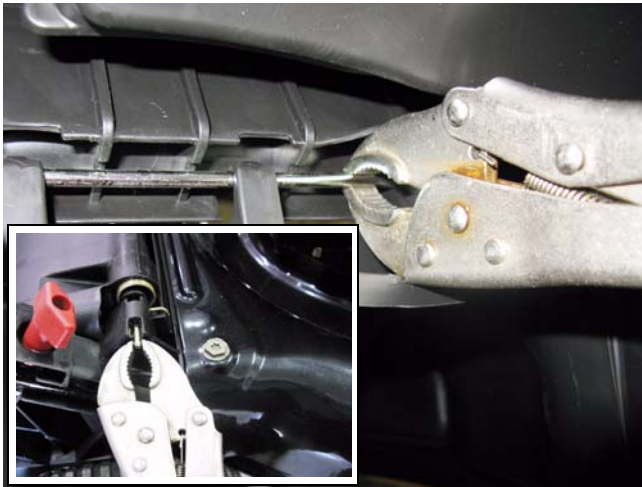

Figure 4.11
3. Grasp the grass door hinge pin with a pair of locking pliers, and slide it toward the right side of the mower. See Figure 4.11.